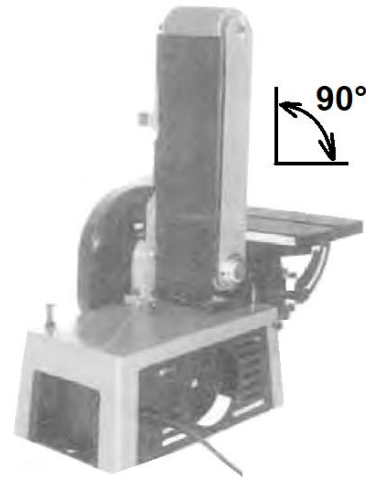

Figure 8-3: Set the table to exactly 90°
3. Set the work table in the exact 90° position to the sanding belt (Fig. 8-3).